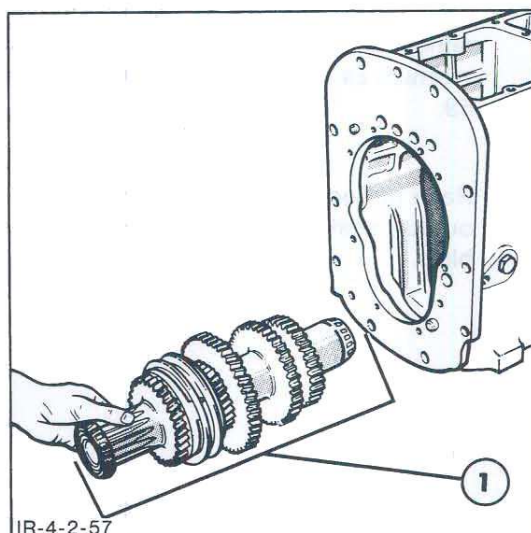

Figure 57
4. Lift the countershaft assembly Figure 57 and remove from the rear end of the transmission case.